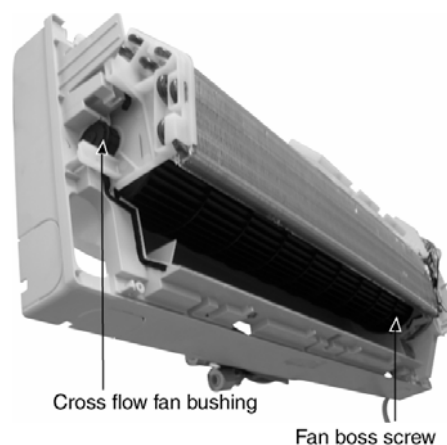

Fig. 9
- Remove the cross flow fan bushing from the chassis. (Fig.9)
- Loosen the fan boss screw at the cross flow fan. (Fig.9)